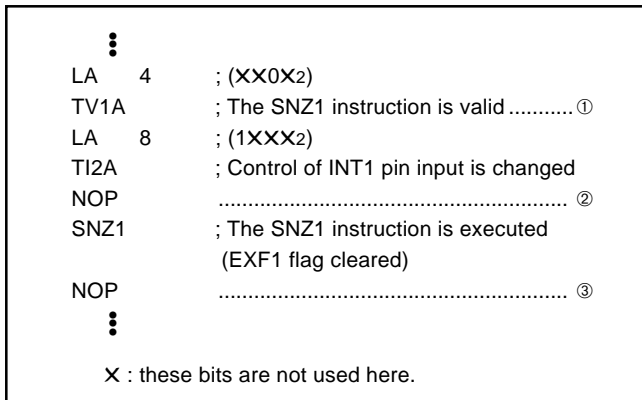

Fig. 69 External 1 interrupt program example-1
- Depending on the input state of the P31/INT1 pin, the external 1 interrupt request flag (EXF1) may be set when the bit 3 of register I2 is changed. In order to avoid the occurrence of an unexpected interrupt, clear the bit 1 of register V1 to "0" (refer to Figure 69①) and then, change the bit 3 of register I2. In addition, execute the SNZ1 instruction to clear the EXF1 flag to "0" after executing at least one instruction (refer to Figure 69②). Also, set the NOP instruction for the case when a skip is performed with the SNZ1 instruction (refer to Figure 69③).